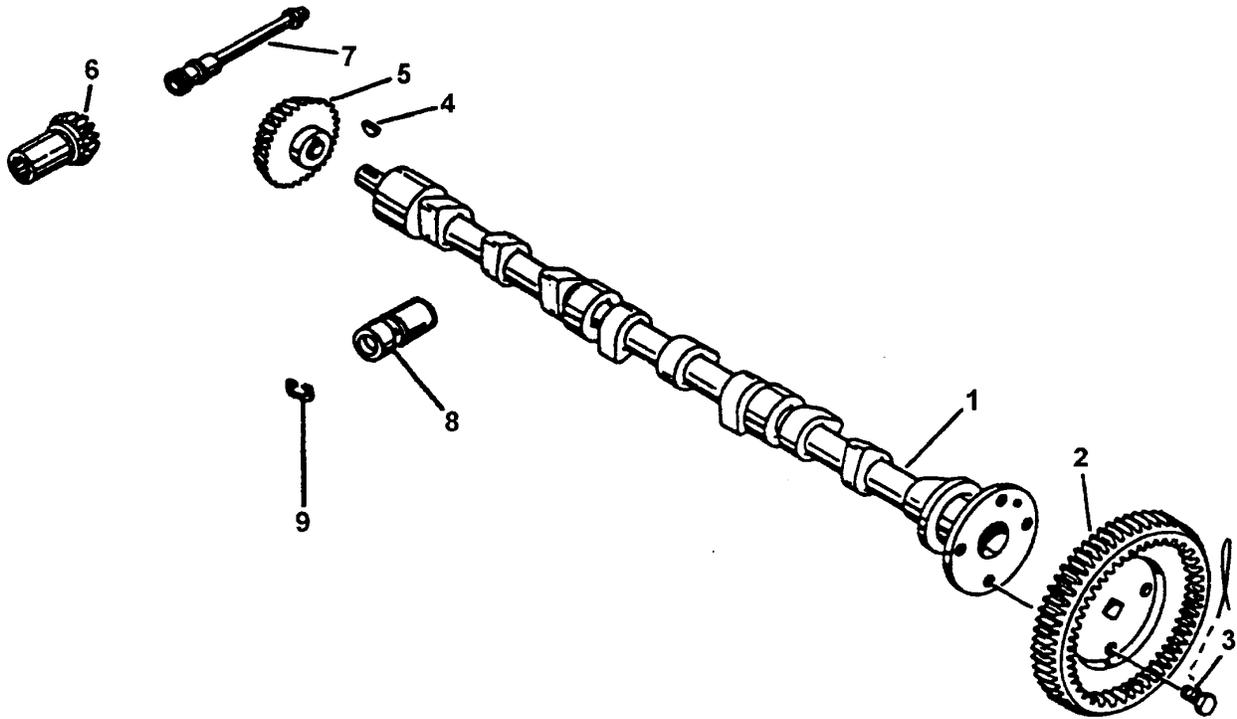

FIGURE 6-18. CAMSHAFT ASSEMBLY.
7. See Figures 6-18 and 6-19. Lift out camshaft and governor drive gear. Remove crankshaft assembly. Place the camshaft and crankshaft assemblies on the proper holding fixtures to prevent damage. Remove and discard crankshaft bearings and thrust washers.